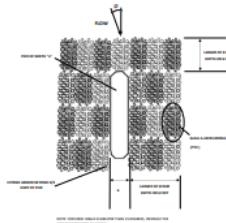
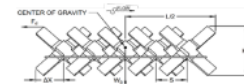

Figure 2: FHWA HEC-23
Figure 3: A-Jacks Section View with Force Diagram
Placement of the A-Jack modules around piers is best accomplished using a rectangular pattern as illustrated in Figure 2. Orientation of the modules is recommended to be with the long dimension of the module parallel to the flow whereby providing the module a greater resisting moment. Embedment of the units will also provide greater stability since the exposed height (H_s), as defined in Figure 3, of the unit is smaller further reducing the overturning moment.
Hydraulic stability of an A-Jack module is estimated by setting the overturning moment, imparted by drag, equal to the resisting moment, a function of submerged weight (WS) and specific gravity (SG) of the module as illustrated in Figure 3 and defined in Equation 1. The drag coefficient (Cd) of 1.05 has been confirmed through physical hydraulic testing (FHWA, 2009).
Table 1 can be used to create custom module sizes to accommodate specific project needs. The dimensions for length and width can be designed using the Center-to-Center Spacing, S, and the ΔX dimension as defined in Equation 2 and shown in Table 1 and Figure 3.